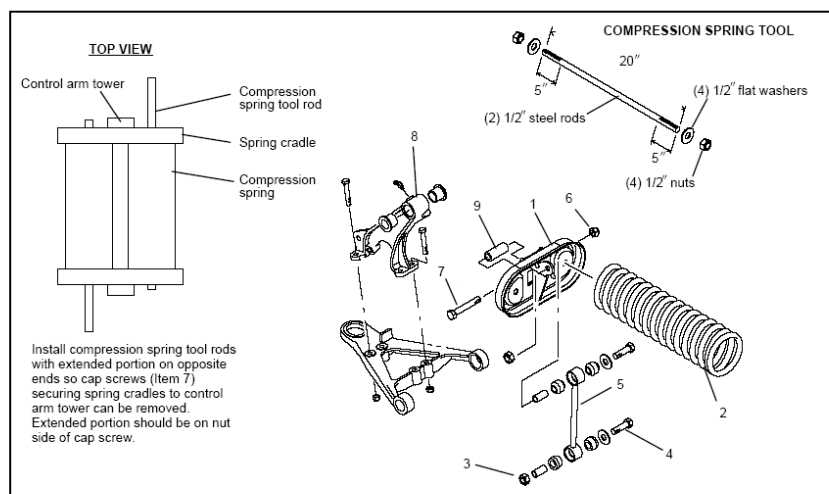

Figure 2
14. Remove lock nut and cap screw from lower end of each stabilizer link. See figure 2.